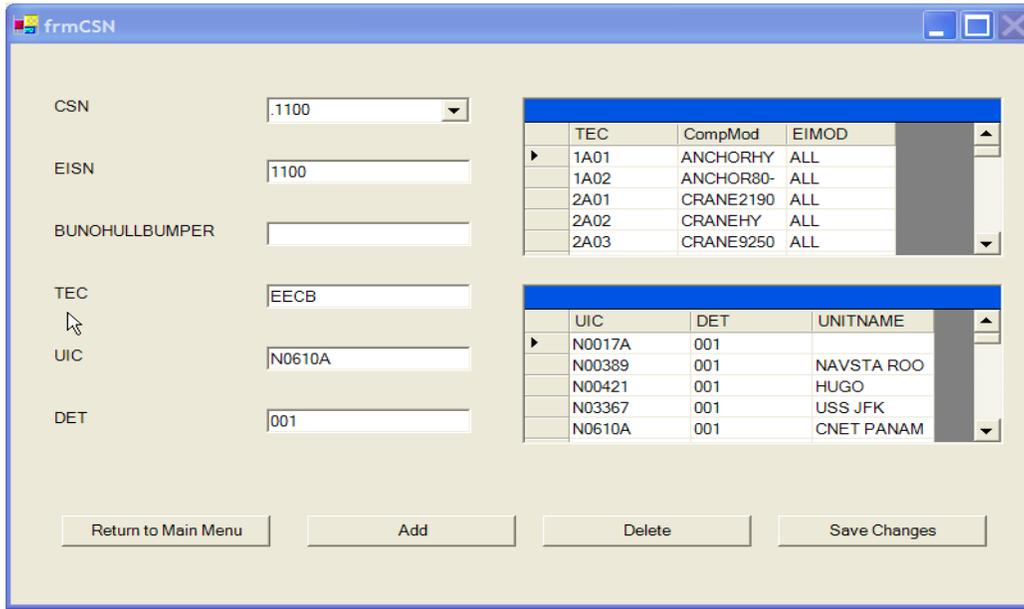

Figure 25. CSN Screen
- (2) Select the Add/Modify CSN button.
- (3) Use the pull down to select the CSN to be deleted (Figure 25).